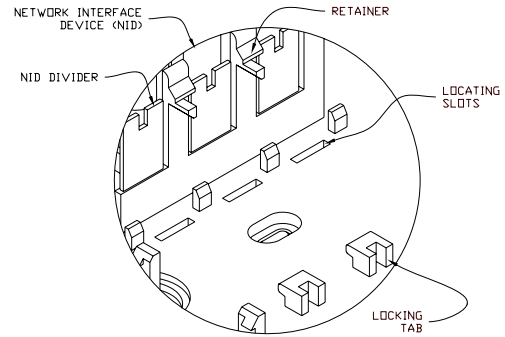

FIGURE 3
3.7 Lower the 79 switch into the 5100 NID and align the locating fingers with the locating slots. Press down until unit locks into locking tab. See Figure 3.